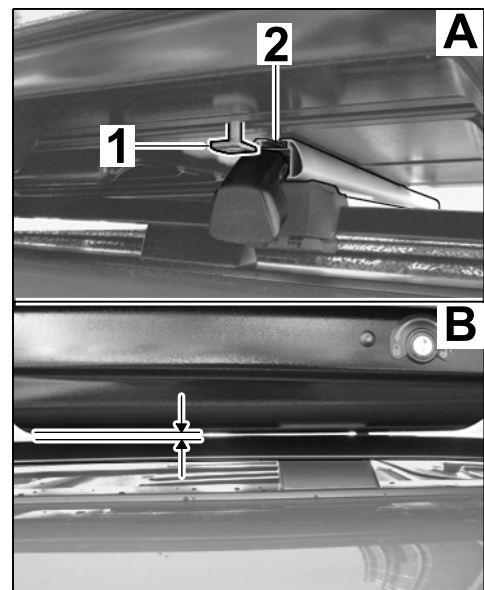

Figure 4
4.2 Open the cap of the roof transport system (front/rear) on this side (⇒ Driver's Manual, section on 'Roof Transport System') and fit roof box 320 on the roof transport system (⇒ Figure 4).
4.3 Check the position of the next sliding block (T-bolt, M8 x 55) with respect to the groove in the roof transport system carrier and align it as required (⇒ Figure 4 -A-).
When fitting the roof box, make sure there is enough space between the floor of the roof box and the roof of the vehicle/upper edge of the roof rails (⇒ Fig. 4 -B-)! Re-position the roof box on the carrier bars if necessary.